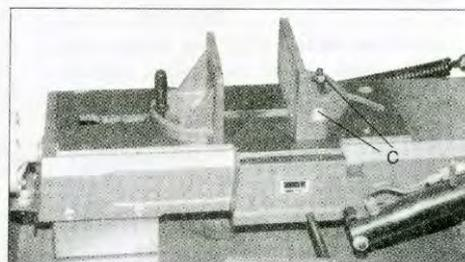

Fig.7
1. Remove bolt and nut assemblies (C, Fig.7).
2. Position vise and re-install bolt assemblies as pictured in Fig.7.